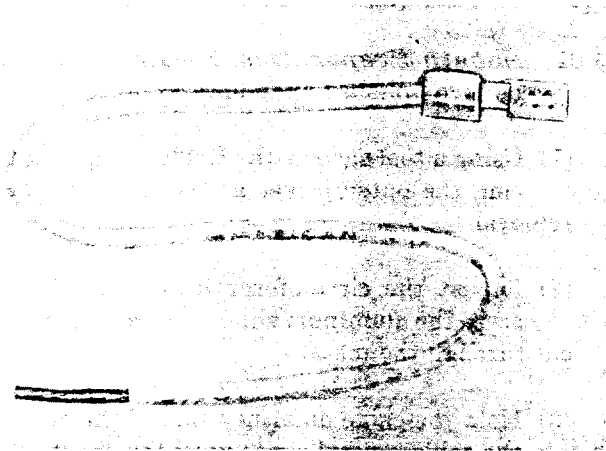
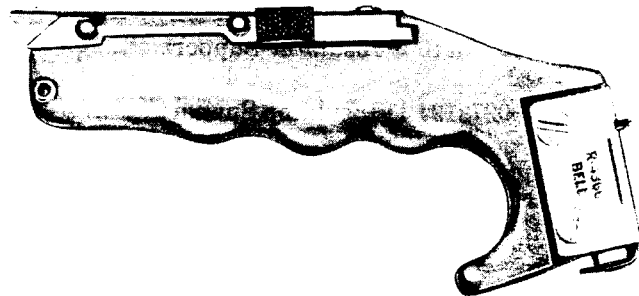

Fig. 2—B Bond Clip and No. 14 AWG Appliance Wire
Fig. 4—R-4366 Stripping Tool
- (a) Stripping Tool, R-4366 (Fig. 4)
2.05 Bonding the cable shield is accomplished using B Bond Clips and 14 AWG appliance wire (Fig. 2). A plastic tie wrap around the shield and B bond clip provides sufficient strain relief (Fig. 4).